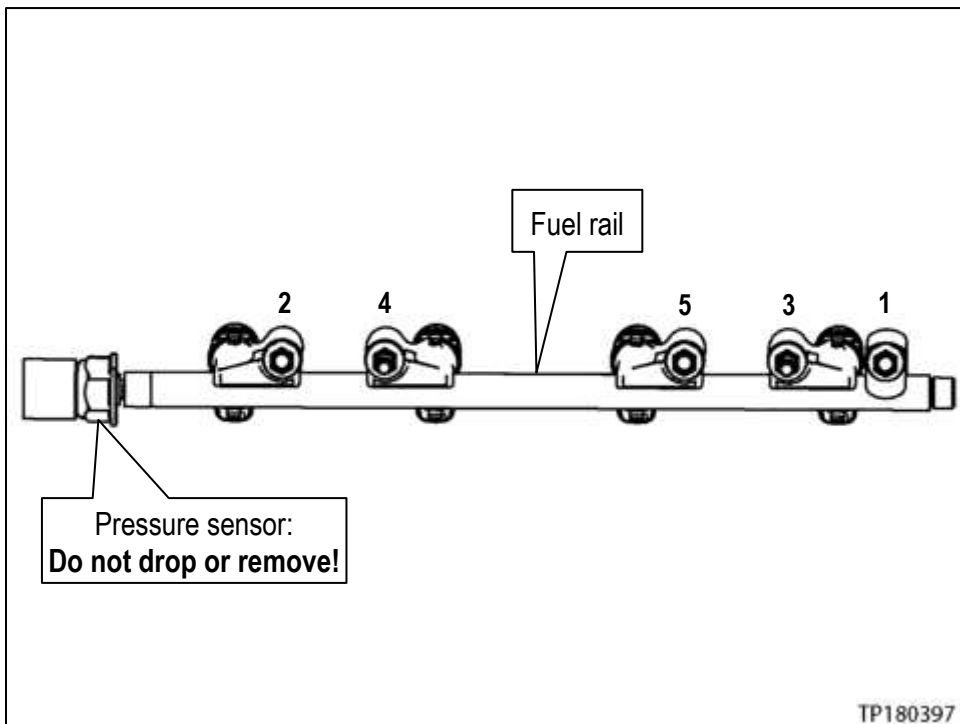

Figure 43
42. Loosen the nuts and bolts in the sequence shown in Figure 43, and then remove them.